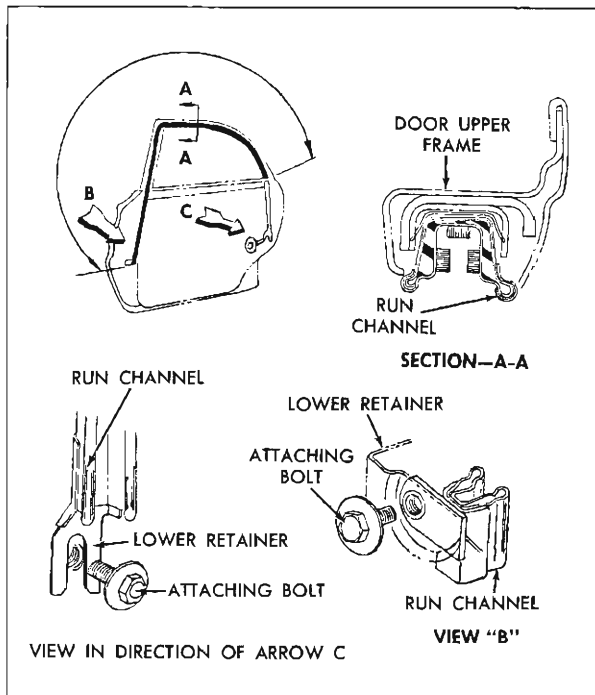

Fig. 3-44 Run Channel "69" Style
3. Remove front and rear attaching screws from hinge and lock pillar facing of door inner panel. See Fig. 3-44).